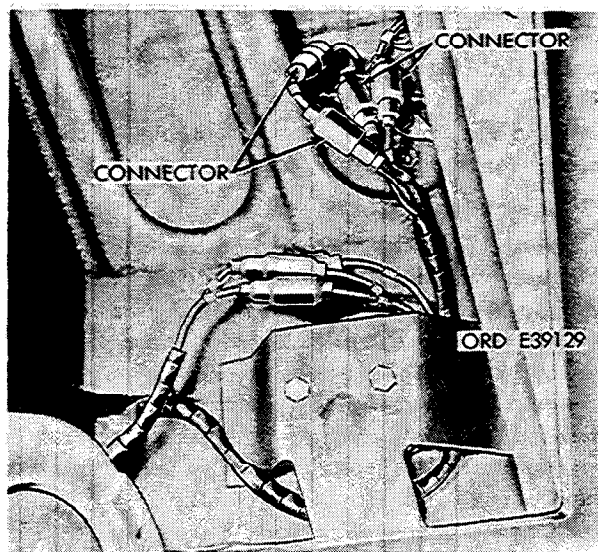

Figure 2-220. Pull connectors from receptacle.
- (1) Install six connectors to front wiring harness leads.
- (2) Mount solid state flasher assembly using two screw and lockwasher assemblies in the location from which the distribution box was removed.
- (3) Mount directional control switch assembly to steering column.
- (4) Connect new cable to directional control assembly.
(5) Route cable along steering column and secure to column using clips removed in a (1) above.
(6) Connect cable to solid state flasher assembly.
(7) Connect cable ground to flasher assembly mounting screw nearest the connector, placing an internal-external tooth washer between ground terminal and mounting bracket.
(8) Connect control assembly cable leads to front wiring harness leads, matching wire numbers.
**a. Removal.** Refer to figures 2-220 and 2-221.
- (1) Pull connectors from receptacle.
- (2) Remove screws, nuts, and lockwashers securing trailer electrical connector receptacle.
- (3) Remove trailer electrical connector receptacle.